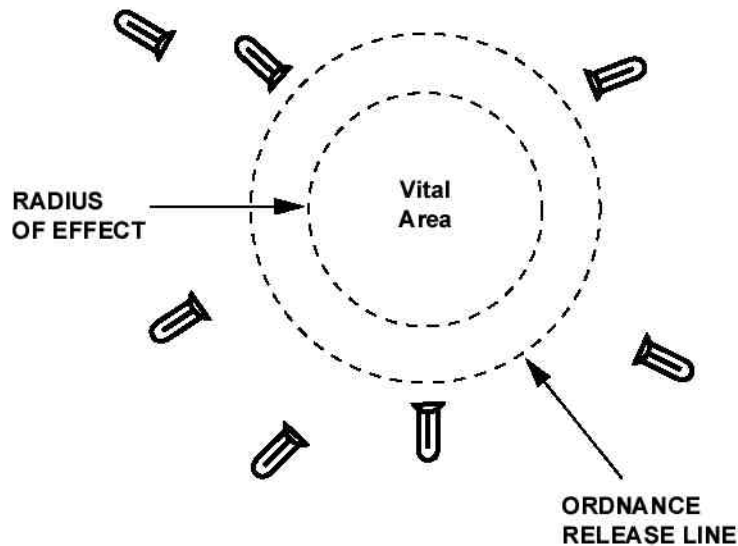

Figure 3-9. LAAD Defense in Depth.
- | **Defense in Depth.** Defense in depth (see fig. 3-9 on page 3-16) is achieved by positioning air defense assets so that enemy aircraft encounter an ever-increasing volume of fire as they approach a defended asset or area. Integrating all air defense weapons used in the defense maximizes defense in depth.